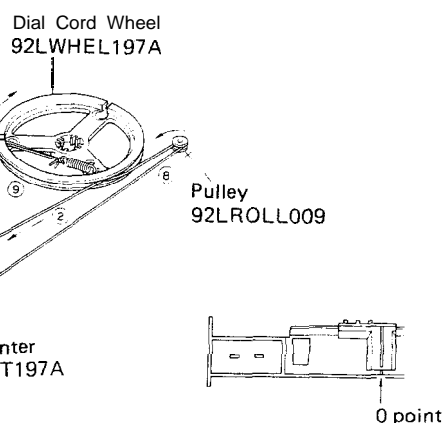

Figure 3-5
- 2) Turn the tuning control shaft fully counterclockwise, and fix it with the pointer aligned with the zero (0) point on the frame. See Figure 3-5.